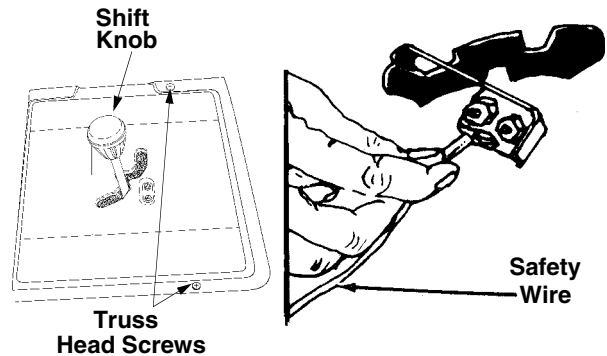

Figure 25
1. Place shift lever in neutral position. Unscrew the shift knob. Remove the two truss head screws which secure the transmission cover. See Figure 25.
2. Lift the transmission cover. Unplug the safety wire from beneath the transmission cover. See Figure 25. Remove transmission cover.